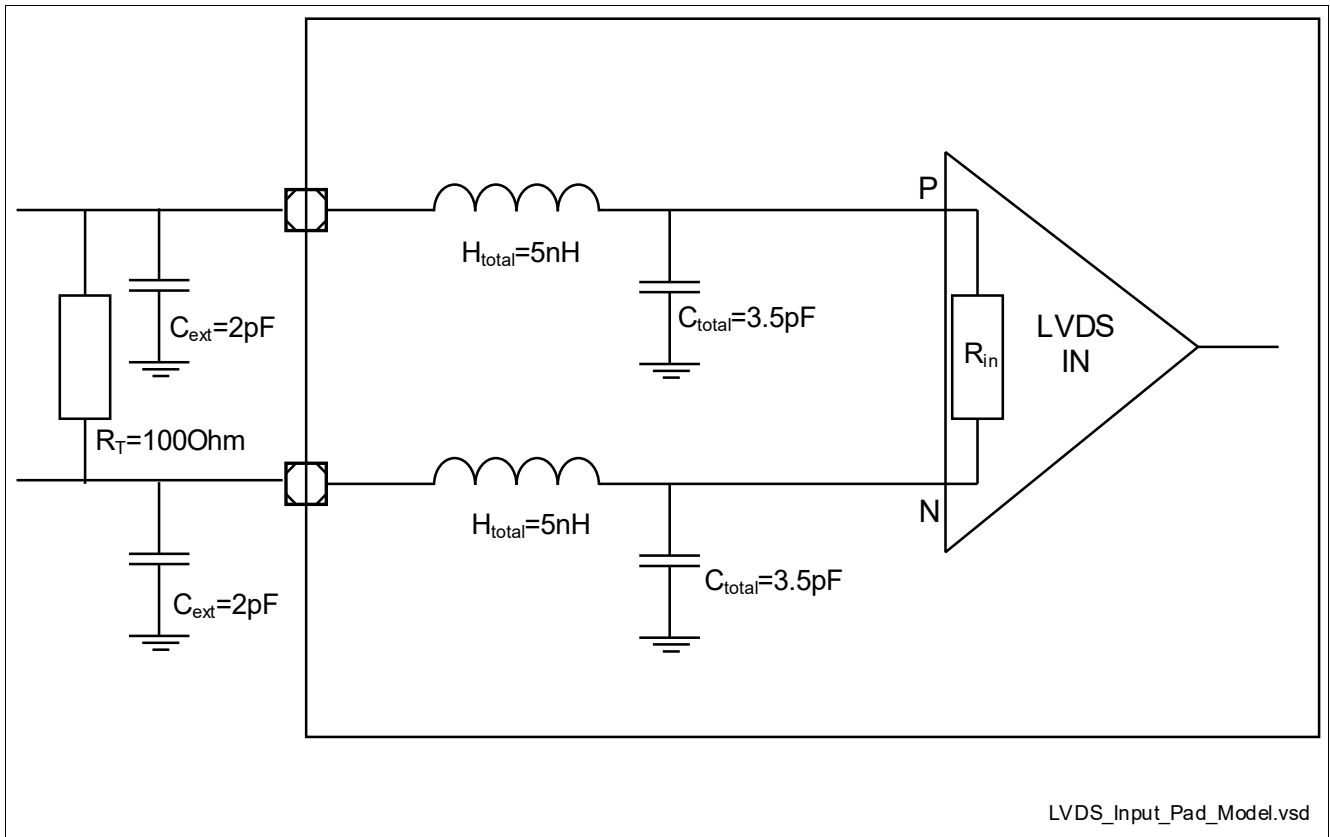

Figure 3-1 LVDS pad Input model
*Note:  $R_T$  in table 'LVDS - IEEE standard LVDS general purpose Link (GPL)' is as termination resistor of the receiver according to figure 3-5 in IEEE Std 1596.3-1996 and is represent in Figure 3-1 either by  $R_{in}$  or by  $R_T=100Ohm$  but not both. If  $R_T$  is mentioned in column Note / Test Condition always the internal resistor  $R_{in}$  in Figure 3-1 is the selected one.*